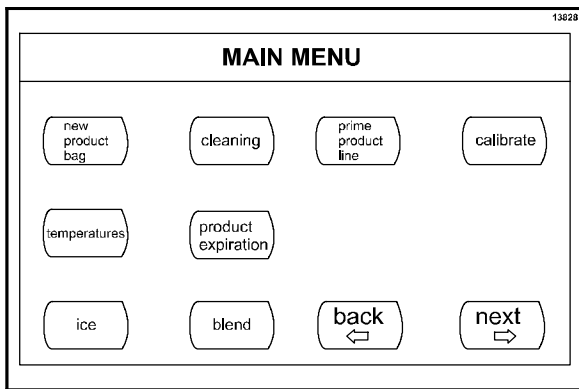

Figure 62
2. From the Main Menu screen, press the CLEANING key. (See Figure 62.)